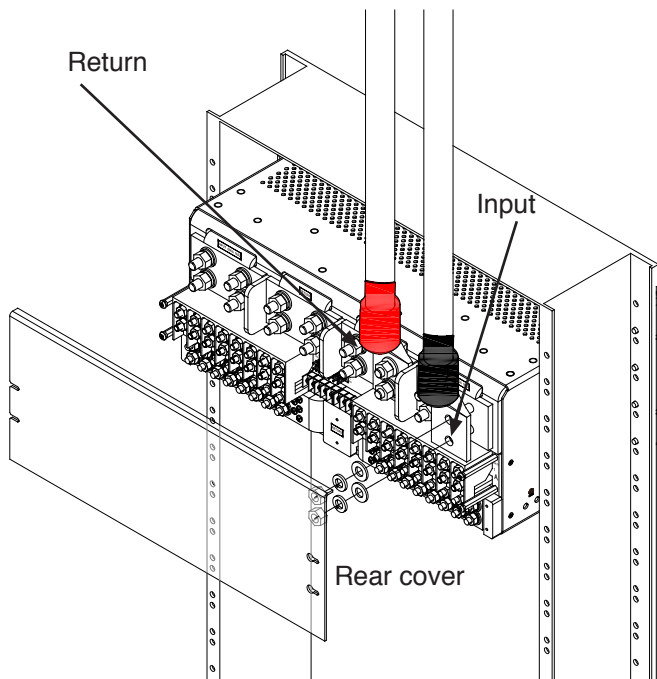

Figure 8 - One Input Lug Per Terminal
14. If required, lightly coat anti-oxidant on lugs and input **BATT** and **RETURN** terminals, and then connect the lugs to input terminals on the back of the panel, as shown in Figures 8 and 9.